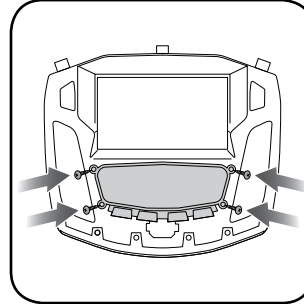

Fig. 2.1
1. Attach the pocket of the FOC1 to the bezel using the four (4) provided screws. (Fig. 2.1)